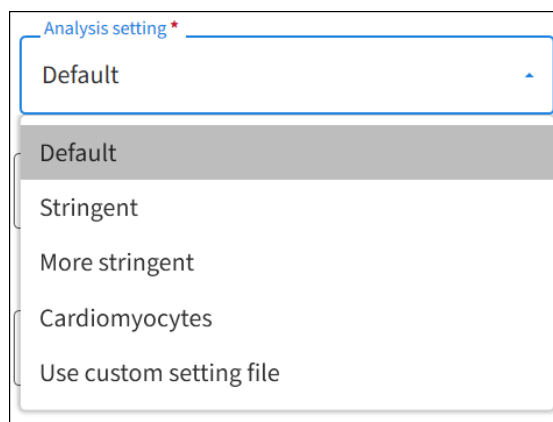

Figure 32. Analysis setting dropdown menu.
- Analysis setting—this option is passed on to CellSelect software to become the parameters by which the cell images are analyzed after scanning. The dropdown menu options are shown in Figure 32.